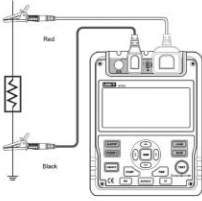

Figure 6. Low Resistance Measurement
- To measure low resistance, set up the Meter as Figure 6 and do the following: